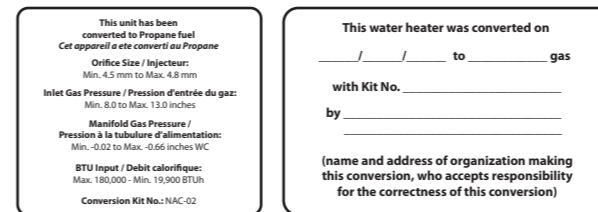

Figure 11. Proper Placement of Gas Conversion Labels
- Once the CO₂ or offset values have been confirmed, apply the included conversion stickers to show that the appliance has been converted to propane gas. Place these labels adjacent to the rating plate as shown in Figure 11.